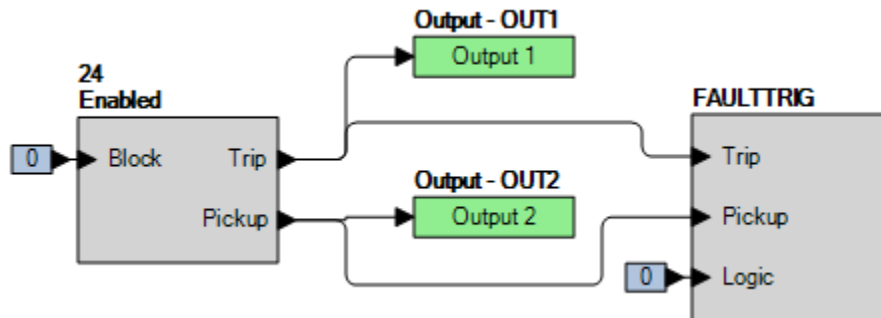

Figure 64-1. BESTlogicPlus Settings
Step 2: Use BESTCOMSPPlus to configure the BESTlogicPlus programmable logic shown in Figure 64-1.